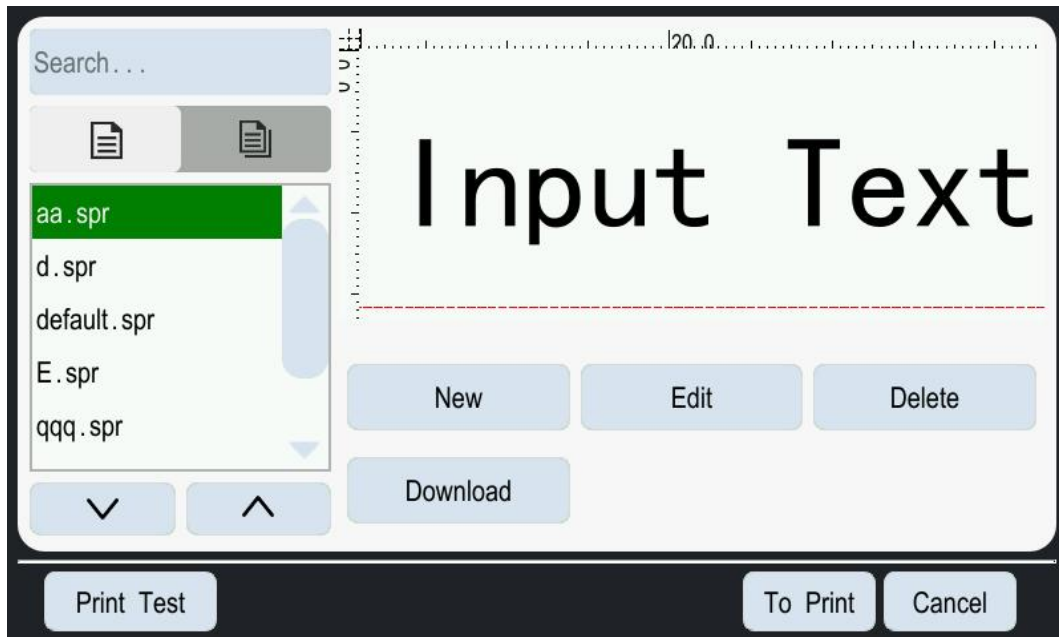

Figure 4-2 File management interface
2. After selecting the required job from the list, a preview of the job will be displayed on the right side of the screen. As shown in Figure 4-2.